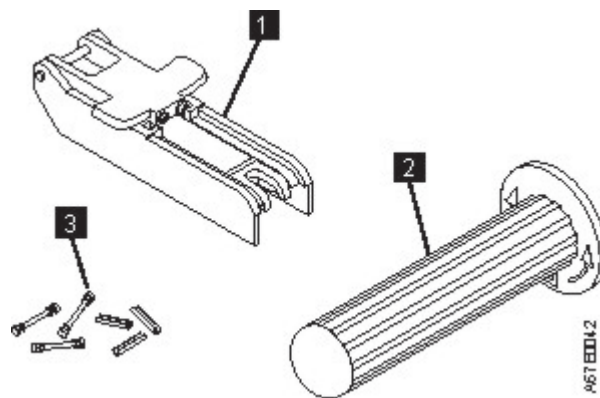

Figure 98. Leader Pin Reattachment Kit
- **Leader pin attach tool** (see **1** in Figure 98 on page 161). A plastic brace that holds the cartridge door open.
- **Cartridge manual rewind tool** (see **2** in Figure 98). A device that fits into the cartridge's hub and winds the tape into and out of the cartridge.
- **Pin supplies** (see **3** in Figure 98). Leader pins and C-clips.